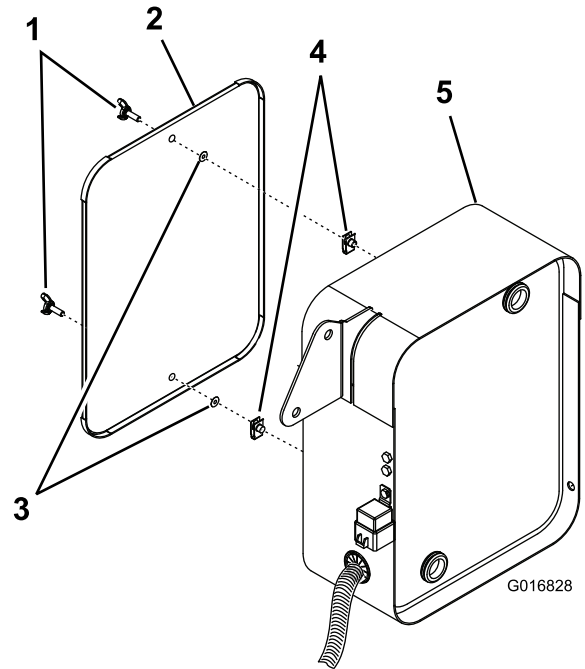

Figure 6
1. Connect the other ends of the hydraulic hoses to the hydraulic line and the manifold block, respectively (Figure 6).
5. Attach the oil cooler screen to the oil cooler support with 2 wing screws, 2 retainer nuts, and 2 clips (Figure 6).